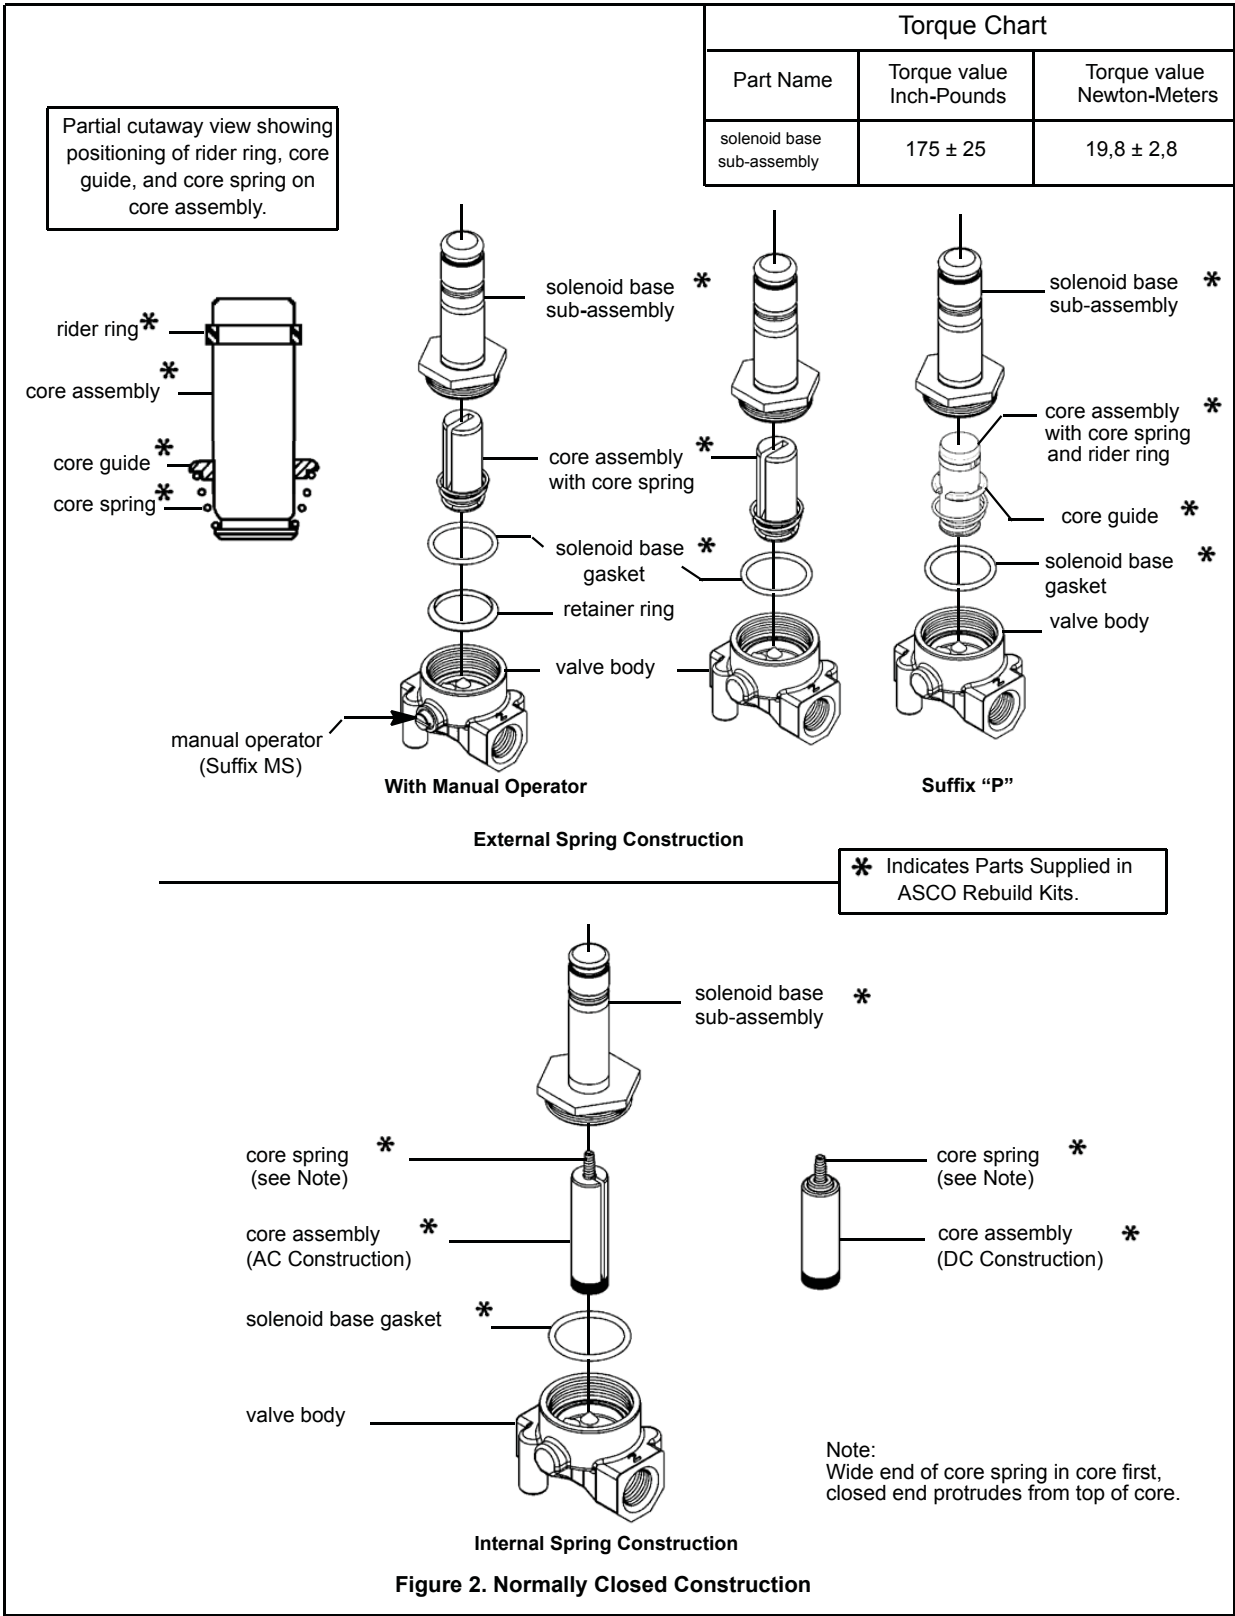

Figure 2. Normally Closed Construction
Valve Disassembly (see Figures 2, 3 & 4)
- Replace solenoid base gasket, core assembly with core spring and solenoid base sub-assembly. Note: For core assemblies with internal type core springs, install wide end of core spring in core assembly first, closed end of core spring protrudes from top of core assembly. (see Figure 2)
Parts marked with an asterisk (*) in the exploded views in Figure 2 & 3 are supplied in Rebuild Kits. When Ordering Rebuild Kits for ASCO valves, order the Rebuild Kit number stamped on the valve nameplate. If the number of the kit is not visible, order by indicating the quantity of kits required, and the Catalog Number and Serial Number of the valve(s) for which they are intended.